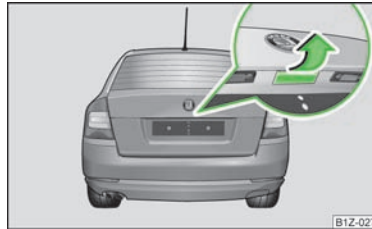

Fig. 16
- Press the handle and simultaneously lift up the boot lid » Fig. 16.